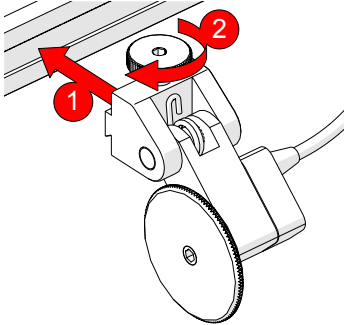

Fig. 25 - Attach to frame bar
1. Loosen the encoder's dovetail jaw and mount to the frame bar (Fig. 25).